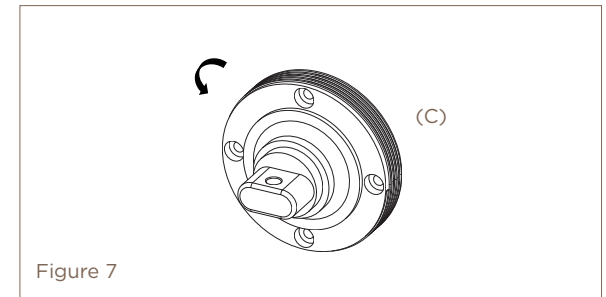

Figure 7
- 4.4 Check the direction of the inner rose (C) is correct for each side of the door. Left hand pictured. Figure 7.